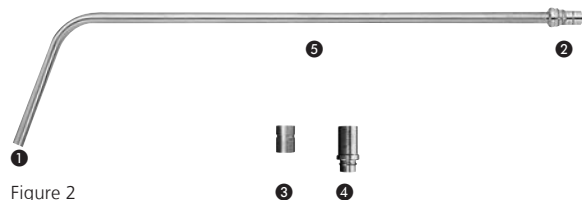

Figure 2
- Remove dirt on the optical surfaces (see figure 2, ❶ and ❷) using cotton soaked in alcohol (70% Ethanol) or a neutral cleanser.
- Remove dirt residues on optical surfaces (see figure 2, ❶ and ❷) using cotton soaked in alcohol (70% ethanol) or a neutral cleaning agent.
- ❶ Light exit
- ❷ Light cable connection ACM Standard
- ❸ Adapter for Wolf
- ❹ Adapter for Storz
- ❺ Fixation area for SynFrame Clamp (387.347) and Holder for Optics (387.365)
The SynFrame Clamp for Holding Rings (387.347) and Holder for Optics (387.365), which is used to connect the Light-transmitting Rod to the SynFrame Holding Ring (387.336) and the SynFrame Half-Ring (387.337), can be attached to the SynFrame Light-transmitting Rod on the entire length of the shaft of the Light-transmitting Rod (see figure 2, ❺).